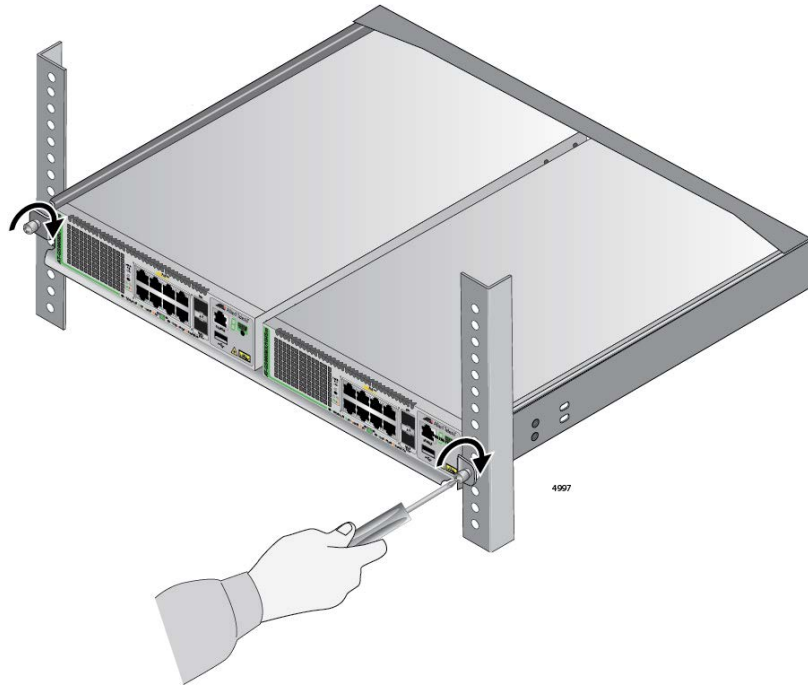

Figure 37. Tightening the Two Thumbscrews on the RKMT-J15 bracket.
8. Tighten the two thumbscrews to secure the bracket to the rack. Refer to Figure 37.